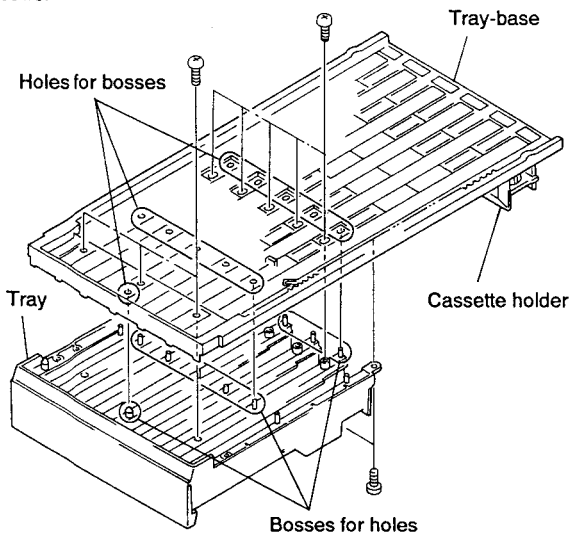

Fig. 2-6
2.5 ASSEMBLY OF TRAY (Refer to Fig 2-6.)